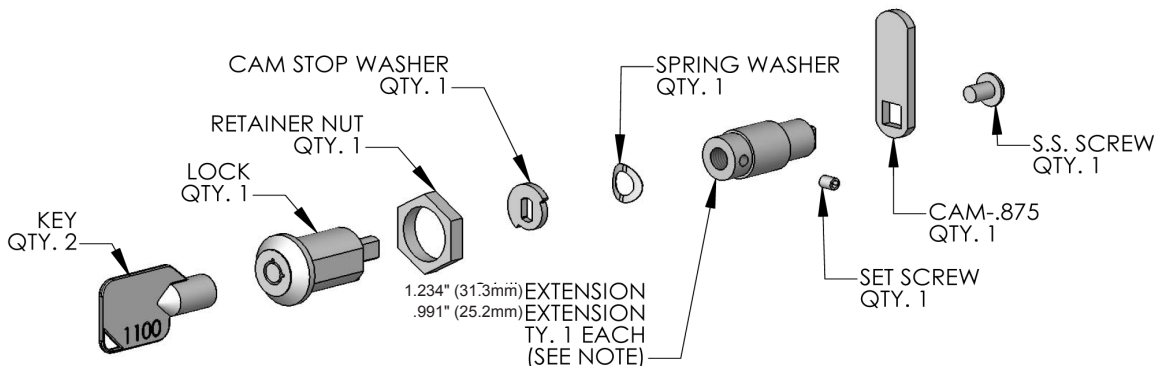

Figure 9
Two (2) lock extensions are supplied with the lock. Use the longer extension for a $\frac{3}{4}$ " thick overlay panel and the shorter one for a $\frac{5}{8}$ " thick panel. Assemble the lock extension, cam stop washer, spring washer, and set screw to the lock as shown in Figure 9 and 10.